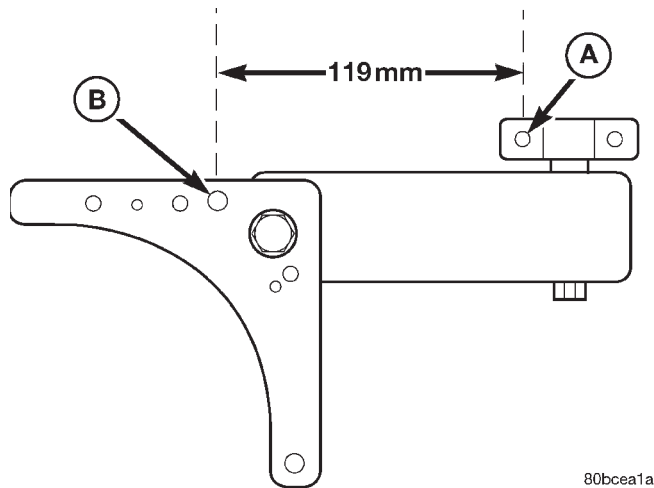

Fig. 12 Engine Position Measurement
(3) Carefully apply upward force, allowing the upper engine to rotate rearward until the distance between the center of the rearmost attaching stud on the engine mount bracket (point "A") and the center of the hole for the washer hose clip on the shock tower bracket (point "B") is 119 mm (4.70 in.) (Fig. 12).